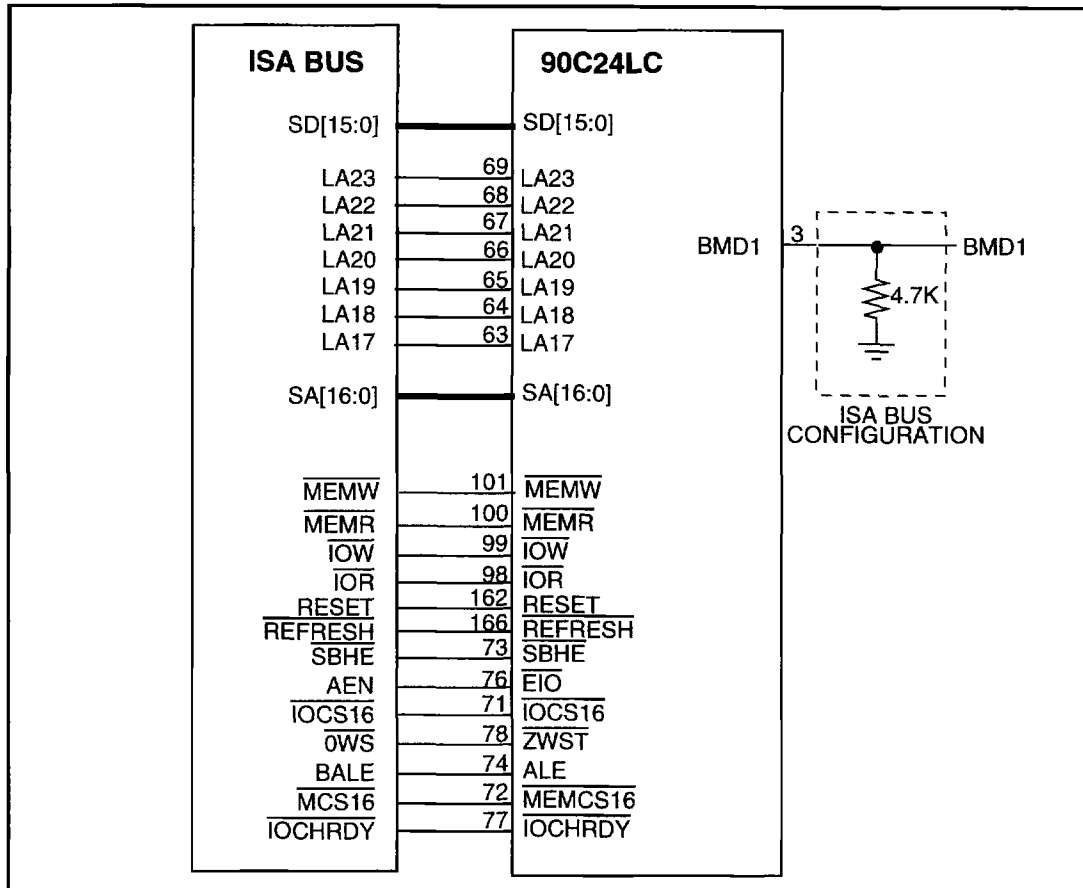

FIGURE 3-1. ISA BUS INTERFACE DIAGRAM
- PC/XT/AT (ISA) bus (see Figure 3-1)
The 90C24LC interfaces to an ISA bus at bus clock rates of up to 12.5 MHz. The 90C24LC supports full 16-bit I/O and memory transfers. Support of 16-bit memory transfers is independent of whether the 90C24LC has an 8-bit or 16-bit display memory path, although increased performance occurs when a 16-bit display memory is available (See Figure 3-1).